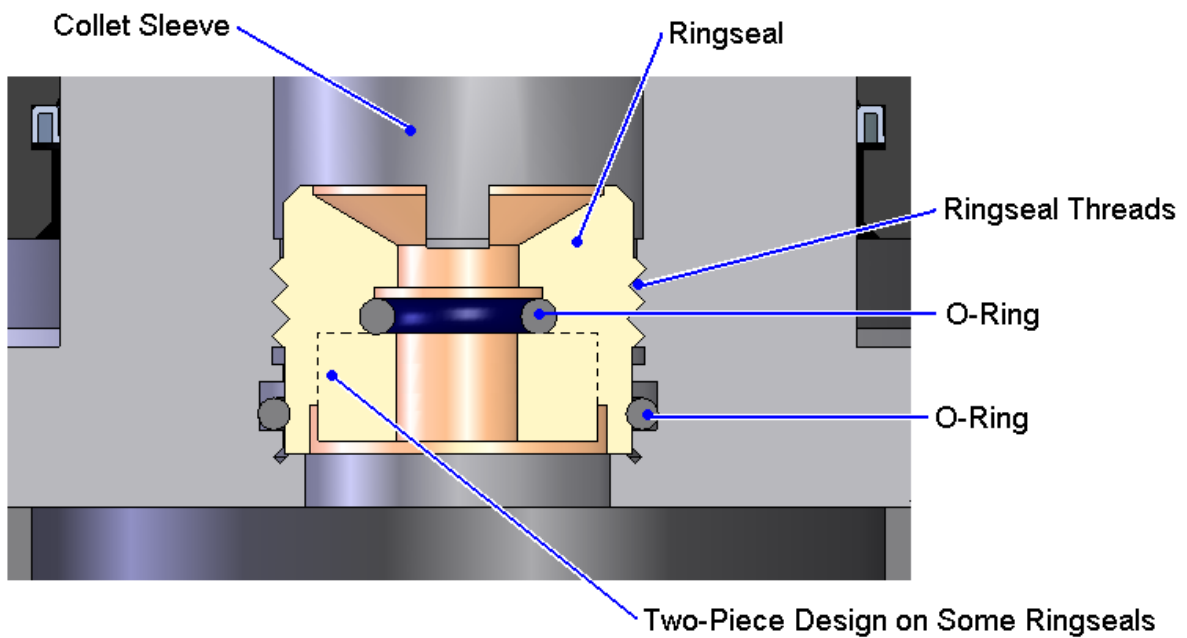

Figure 4-6: Cross-section View of Ringseal Showing Both O-rings
5. Remove the o-ring on the ringseal itself, and replace it with a properly lubricated new item. The second o-ring is within the collet sleeve, as shown in Figure 4-6. A long pick or thin screwdriver will be necessary to remove the o-ring and replace it.